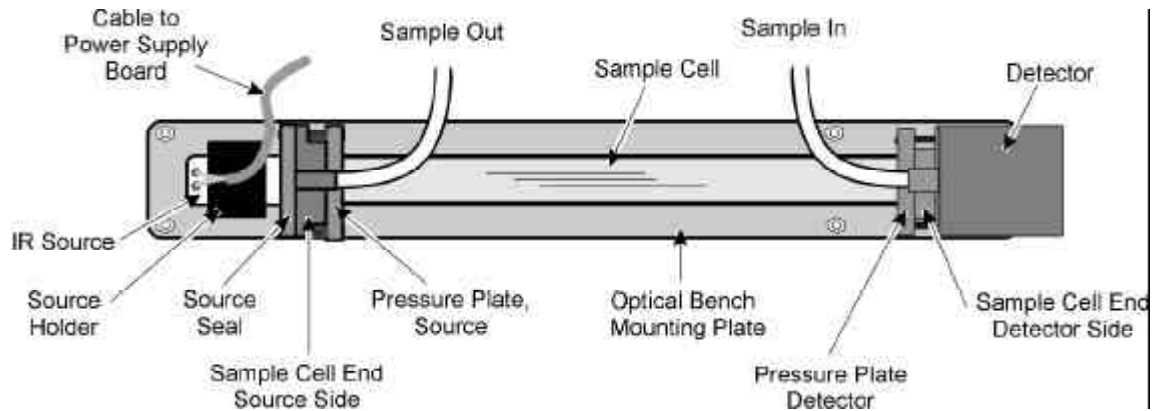

Figure 6-2: Optical Bench Components
5. Identify the parts and location of the Optical Bench Assembly. See Figure 6-2.